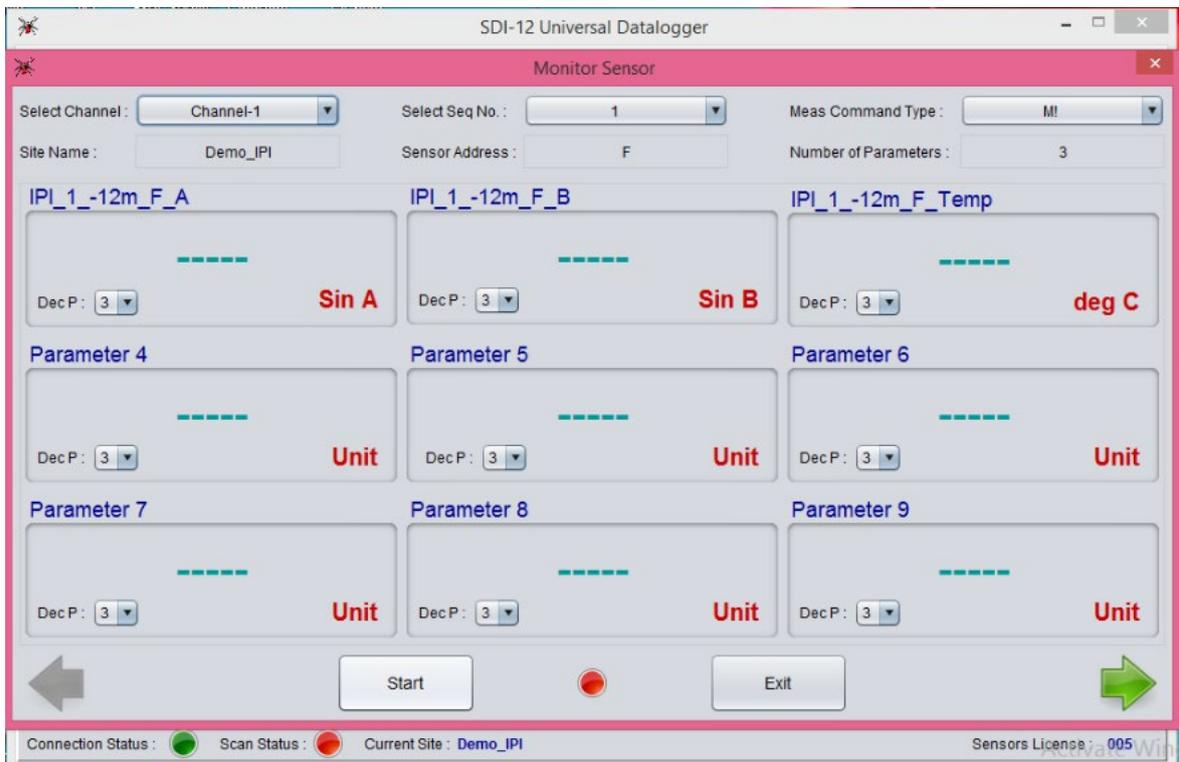

Figure 7-23 Monitor sensor window
- 22 After clicking “Monitor Sensor” tab, a window will appear as shown in figure 7-23 below. Select appropriate Channel and click “Start” Button for sensor readings in Real Time